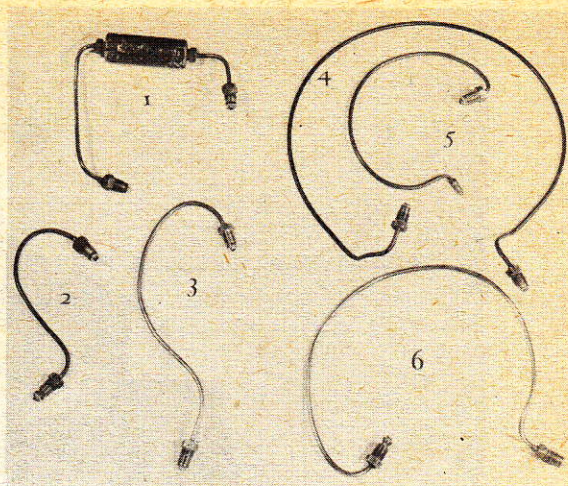

FIGURE 20-74.—Interior lantern tubing.
A. *150-mm. lantern.*—In this type lantern the flasher is secured to the base of the lantern by four 5- by 75-mm. flister head brass machine screws. If metric screws are unavailable, the holes may be retapped for 10 x 32 machine screws. The flasher is connected to the lantern inlet connection by a piece of 4-mm. steel tubing, bent to a three-quarter circle. (See piece No. 5 of fig. 20-74.) One end of this piece is fitted with an F-40A connection which threads into the flasher, the other end is fitted with an F-60 type connection which threads into the base inlet fitting. This connection has a steel collar brazed to the 4-mm. steel tubing, unlike the standard F-60 fitting, which has a brass collar. Flashers in these lanterns are furnished with a crescent type burner of one of the following sizes as required: $\frac{1}{4}$ -, $\frac{3}{16}$ -, or $\frac{3}{8}$ -cubic-foot capacity. The focal height of the flasher unit itself is $5\frac{23}{32}$ inches with a $\frac{3}{16}$ -cubic-foot burner. Mounting holes for the installation of this lantern should be at least $1\frac{1}{32}$ inch in size, for $\frac{3}{8}$ -inch bolts. Always use brass lantern bolts, spaced equally on a pitch circle $9\frac{1}{8}$ inches in diameter for $\frac{3}{8}$ -inch bolts. Always use brass lantern bolts.
(1) *Interior pipe assembly.*—The flasher is connected to the lantern inlet test manifold by an interior pipe assembly made up of 4-mm. copper-covered steel tubing bent to a three-quarter circle with a $\frac{1}{4}$ inch straight Whitworth pipe thread fitting on each end. (See piece No. 6, fig. 20-74.) There is also a Service-type interior piping assembly for this lantern. This assembly is also made up of 4-mm. copper-covered steel tubing but is bent to a one-quarter circle and has Service type F-40A connections on each end. (See piece No. 2, fig. 20-74.)
(2) After the flasher test is completed, screw the fitting located on the inside bend of either the A. G. A. or Service-type pipe assembly firmly into the flasher-regulator inlet hole; place a $\frac{5}{8}$ x 10-32 flister head brass machine screw in each of the
(3) If the interior pipe assembly was originally bent approximately to proper shape, the lugs of the flasher will line up with the screw holes in the base. There is sufficient flexibility in the piping so that installation should not be too difficult.
D. *300/375 mm. A. G. A. lantern.*—Flashers are similarly installed in the 300- and 375-mm. A. G. A.-type lantern, except that different interior piping is used. For the 375-mm. lantern, see piece No. 4 figure 20-74.
E. *200/375-mm. Service lanterns.*—These lanterns have different interior piping assemblies from the A. G. A. lanterns (see piece No. 3 fig. 20-74) and since the lantern test manifolds do not have a filter, as do the A. G. A. type, a separate filter (F-500) is installed in the interior piping assembly of all Service-type lanterns.
(1) This means that the interior piping consists of two pieces of tubing, each with a standard F-40 connection on each end. (See piece No. 1 fig. 20-74.) Since there are four connections involved in this installation it is preferable to make up and test the piping assembly on the bench before installing the unit in the lantern. In this way, only one connection remains to be tested after the installation is made. If the stormpane section of the 200-mm. lantern is removed, installation will be easier.
(2) In tightening up the connections in the test manifold, a special crow-foot wrench is necessary, particularly with the stormpane section in place. These wrenches should be a part of every acetylene tool kit, and are available through Coast Guard supply depots.